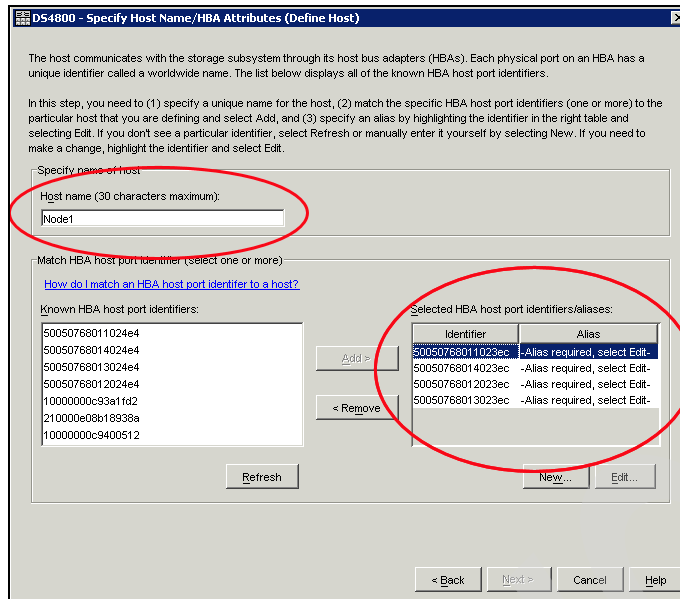

Figure 4-8 Associating the node's WWPNs on the DS4800
3. Associate the node's WWPNs with the new host. Figure 4-8 on page 72 shows the naming of the host, in this case Node1. It also displays the WWPNs we have associated with the host.